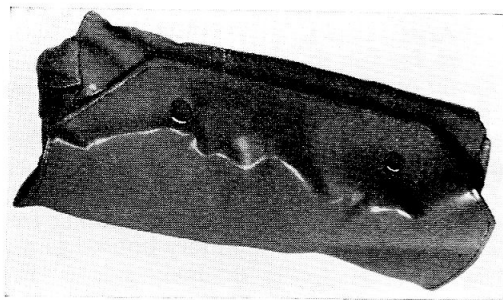

Fig. 1. Life jacket in its pack
1. The passenger life jacket is provided for the use of adults and children at stations in aircraft in which the use of aircrew life jackets is undesirable. It is normally stowed in a pack (*fig. 1*) kept in a stowage which is easy of access to the potential wearer. Packs are of two sizes, a standard size for use in aircraft in which stowage facilities are of average size and a small size for use in aircraft in which stowage facilities are restricted. They are known as Packs Types A and B respectively.